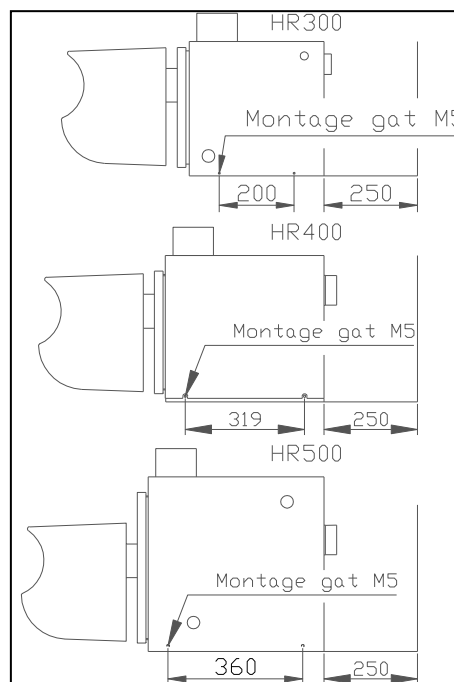

Figure 1
- Keep a minimum distance of 250 mm behind the boiler for the flue-gas outlet (see figure 1).